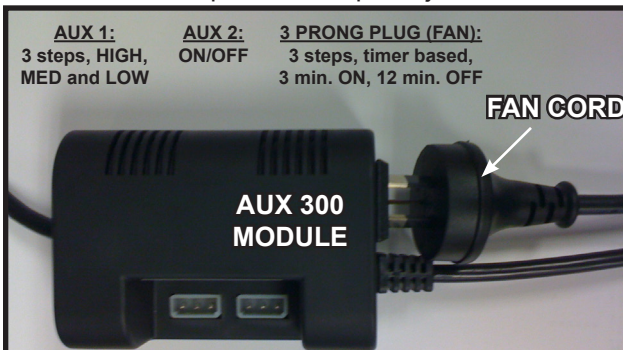

Figure 51. Plug Fan into AUX300CE Module
- Insert the 3 prong plug from the fan into the receptacle located in the AUX300CE module. See Figure 51.